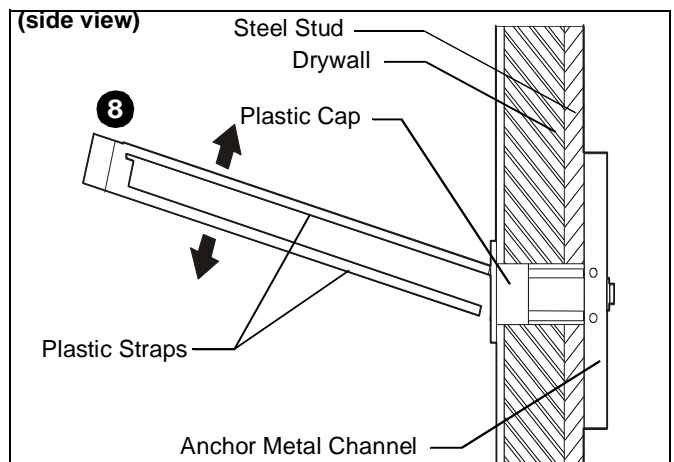

Figure 8
8. Snap off plastic straps on anchor at wall by pushing side to side, snapping off straps level with flange of plastic cap. (See Figure 8)